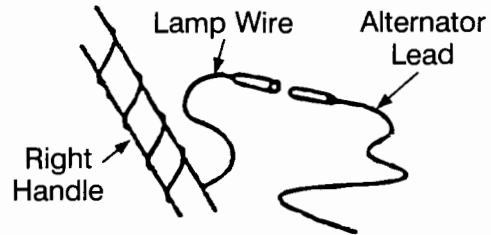

FIGURE 6
- Make certain the metal loop on the end of the spark plug wire (inside the boot) is fastened securely over the metal tip on the spark plug. See Figure 6.